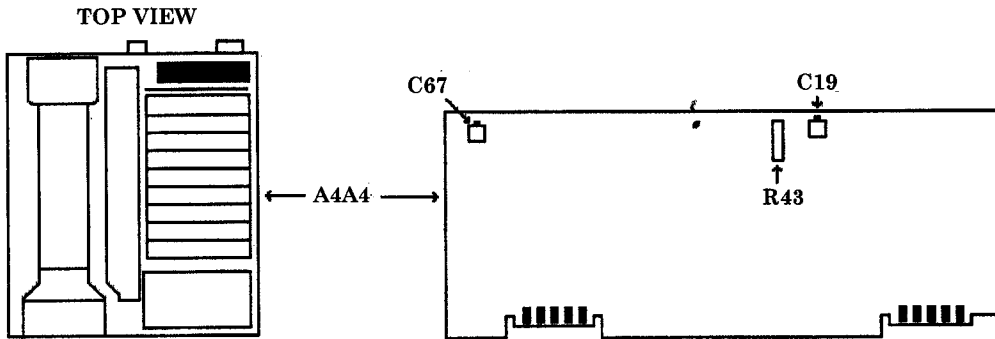

Figure 17. A4A4 board.
- (68) Adjust A4A4C67 and A4A4C19 (fig. 17) for maximum level as indicated by TI indication
- (72) Adjust A4A4R43 (fig. 17) to align markers on TI display. **MKR D** level should indicate 1.00X.